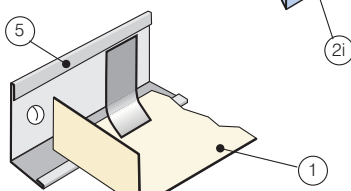
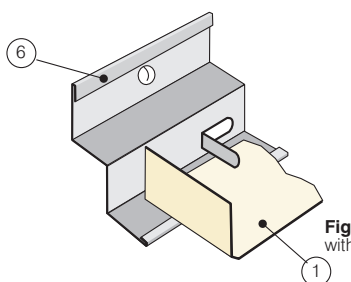

Fig.5 Perimeter angle with hold down clips.
Fig.6 Perimeter angle with hold down tabs.
Either of perimeter angles (5) (Fig.5) or (6) (Fig.6) can be used to cloak the cut edges of TILUX tiles (1) at walls and other abutments. The edges are held down by clips on angle (5) and by pull out tabs on angle (6).